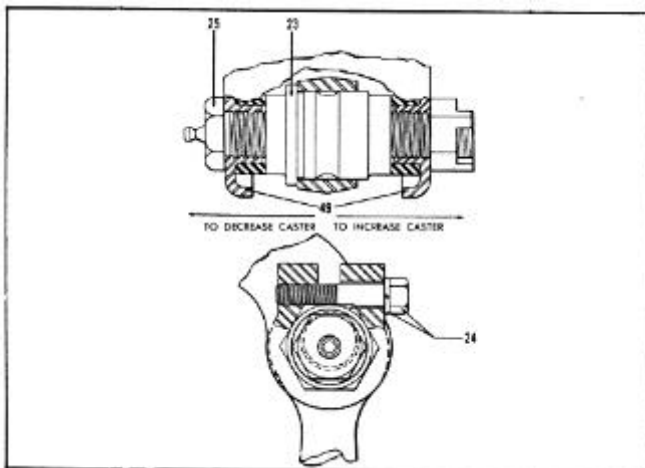
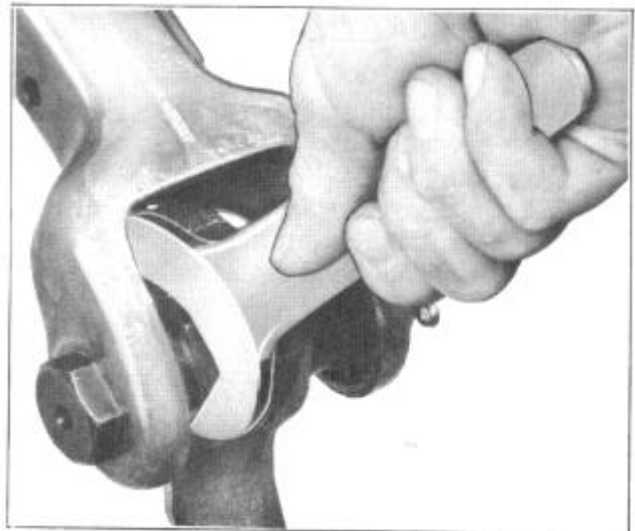

FIGURE 11
FIGURE 12
2. Remove eccentric bushing lock screw and washer (24), Figure 11
3. Remove cotter pin, nut, and eccentric bushing pivot bolt (25).
4. Remove eccentric bushing seals (49).
5. Remove bushing (23) from the steering spindle support and upper support arm.
6. Remove eccentric bushing from steering spindle support using upper support arm eccentric bushing adjusting wrench "KMO- 366," Figure 12.